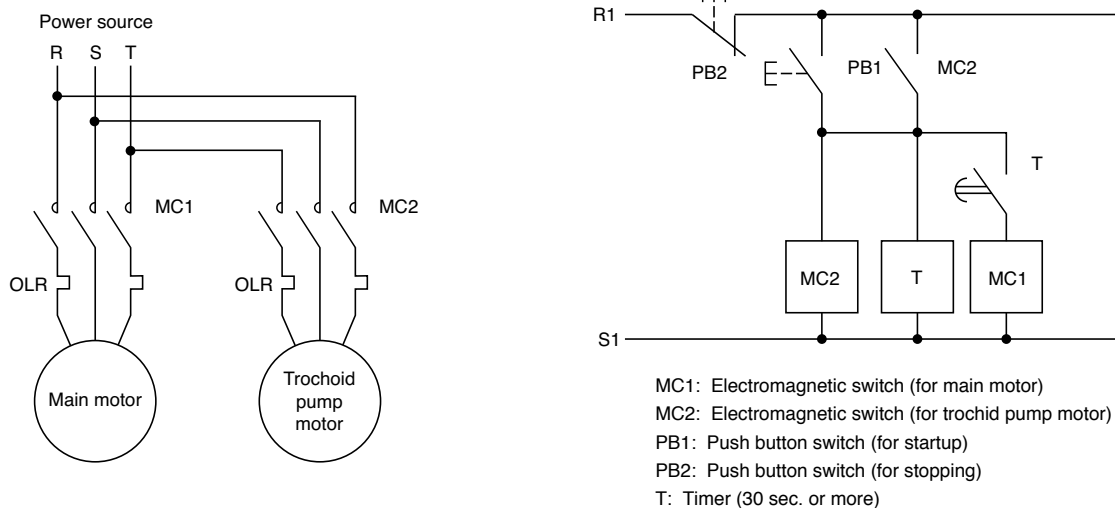

Fig. 13 Trochoid Pump Wiring Diagram
- (3) Install an interlock between motor for trochoid pump and main motor. The interlock should have the following functions (Refer to Fig.13).
- ① At startup: Main motor should not operate when the trochoid pump does not.
- ② During operation: Main motor should stop when the trochoid pump stops for some reason.
- (4) Trochoid pump should be started up at least 30 seconds before the starting up the main motor (priming). This assures optimal lubrication condition.